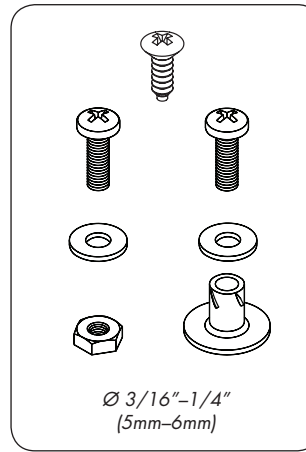

Fig. 3
2. Attach end fittings to backrest. Mounting screws must have a minimum pullout strength of 200lbs /90kg. Not included in package. (Fig. 3)